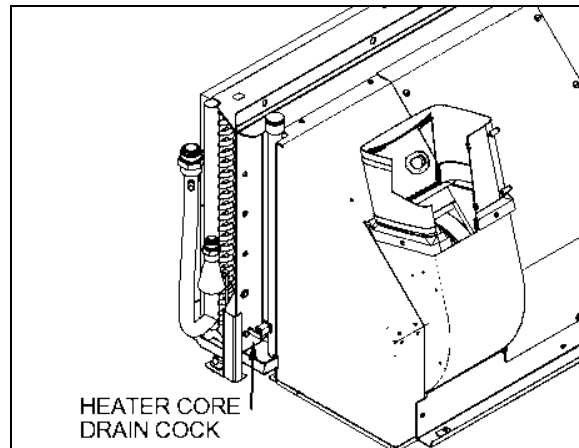

**FIGURE 76: H3 SERIES HEATER LINE SHUTOFF VALVES**
3. Close the hot water lines shut-off valves located next the engine on street side (see Figure 75 or Figure 76).
2. Close both heater line shutoff valves (Figure 75 or Figure 76). One is located in the engine compartment, lower road side, near the radiator while the other one is located behind the L.H. hinged rear fender near the preheater.